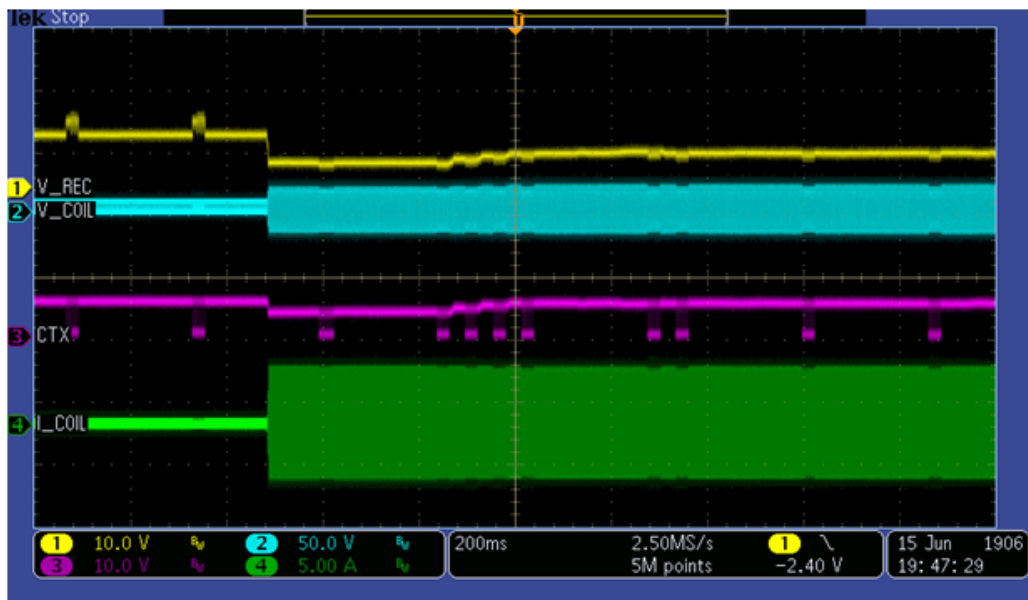

Figure 39. System response for a 3 A load
- System response measurement for a 3 A load is shown in Figure 39.